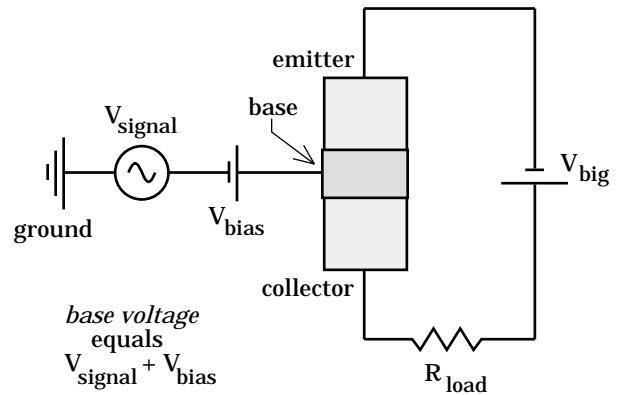

FIGURE 21.18c
5.) Having established what happens when the base is made positive, consider the circuit shown in Figure 21.18c on the next page.